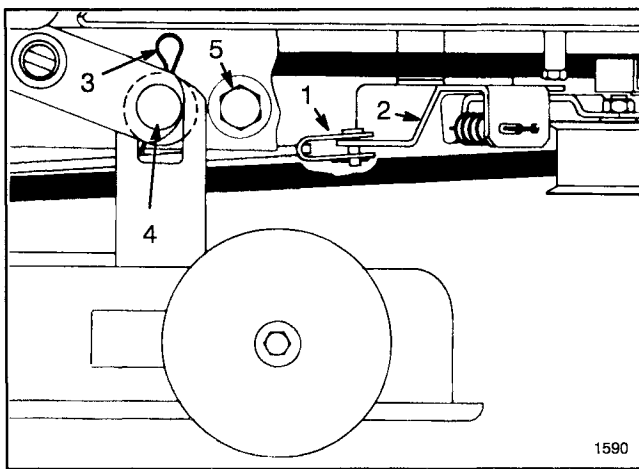

Figure 17
9. Remove cotter pin and clevis pin securing deck brake rod to idler bracket (Fig. 17).
10. Remove (2) hairpin cotters and washers retaining mower housing to mounting pins (Fig. 17). Grasp mower housing and move it to the side until housing slides off pins, then forward to allow front mounts to drop.
5. Remove capscrews, retainers and locknuts securing deck stops to each side of mower frame (Fig. 17). Slide mower housing rearward to release belt tension.